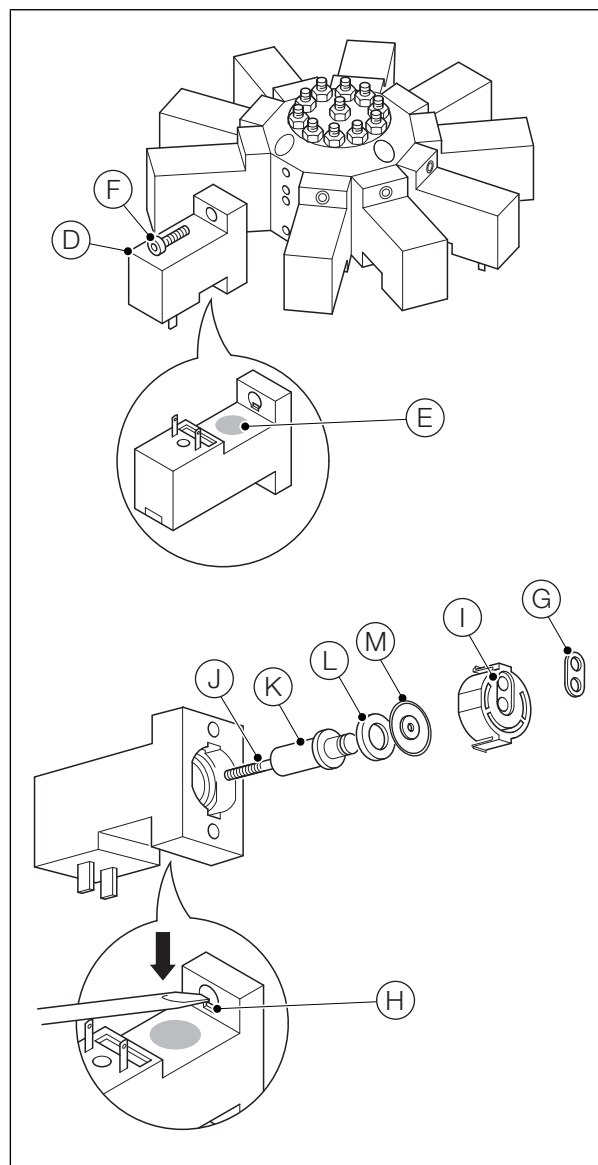

Fig. 13.2 Removing the Waste Valve
5. Referring to Fig. 13.2:
- a. Locate the waste valve (D), identified by an orange colored label (E) on the back of the valve.
- b. Remove the 2 M3 screws (F) securing the valve to the manifold and remove the valve. Discard the valve face gasket (G).
- c. Using a small screwdriver, depress the retaining clips (H) and remove the diaphragm seat (I).
- d. Turn the valve over and, taking great care not to lose spring (J), allow the diaphragm retainer (K), complete with washer (L), diaphragm (M) and spring (J) to fall out.
- e. Remove the diaphragm (M) from the diaphragm retainer (K) and discard.
- f. Fit the new Kalrez diaphragm, ensuring washer (L) remains in place below the diaphragm.